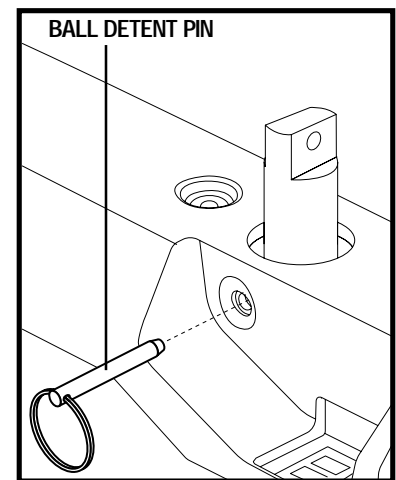

Figure 22. Seat Tower
7. Remove the ball detent pin from each seat tower as shown in figure 22.